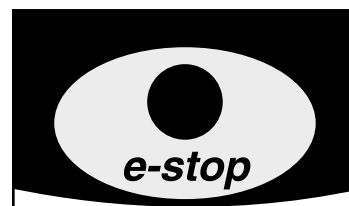

Figure 3
**The function of the emergency stop:** The e-stop key functions as the emergency stop. In an emergency situation, remove the e-stop key from the console and the treadmill will come to a stop. On the console, the e-stop location looks like Figure 3.